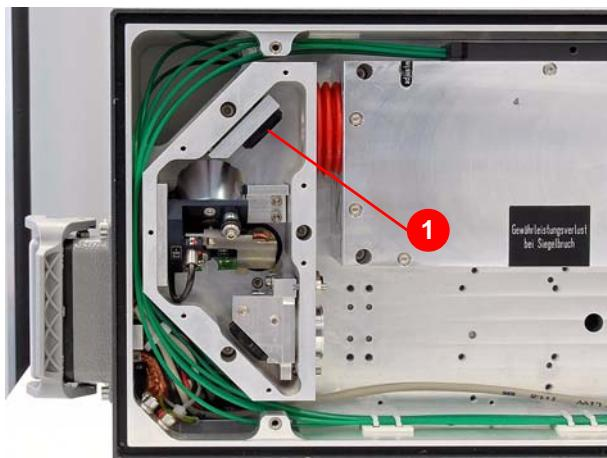

Figure 7.36 Removing the upper deflecting mirror
- Unscrew the upper deflecting mirror (1) (Figure 7.36) and lay it on a clean surface.